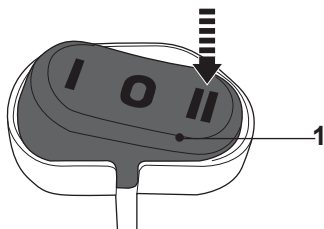

Fig. 28
The power switch is used to select the automatic tool triggering feature built into the vacuum. With the (I) ON position selected, the vacuum will simply run continuously. When the (II) AUTO position is selected (Fig. 28), the vacuum will automatically turn on and off when the power tool is turned on and off.